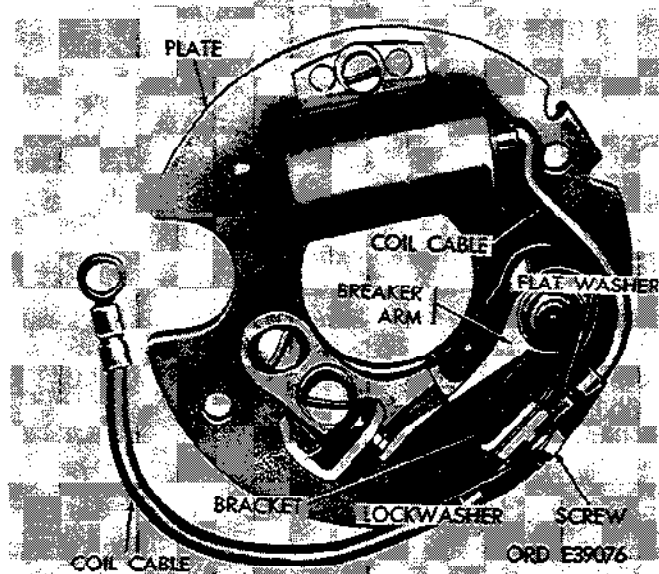

Figure 2-155. Removing or installing coil cable and breaker arm.
(8) Remove terminal screw, flat washer and lockwasher and remove coil cable and capacitor cable (fig. 2-155).
(9) Remove screw and lockwasher and remove breaker point assembly (fig. 2-155).
(10) Remove screw and lockwasher and remove capacitor (fig. 2-155).
(2) Install capacitor on breaker plate and secure with screw and lockwasher (fig. 2-155).
(3) Install breaker point assembly on breaker plate and secure with screw and lockwasher (fig. 2-155).
(4) Install capacitor cable and coil cable on terminal block and secure with screw, lockwasher and flat washer (fig. 2-155).